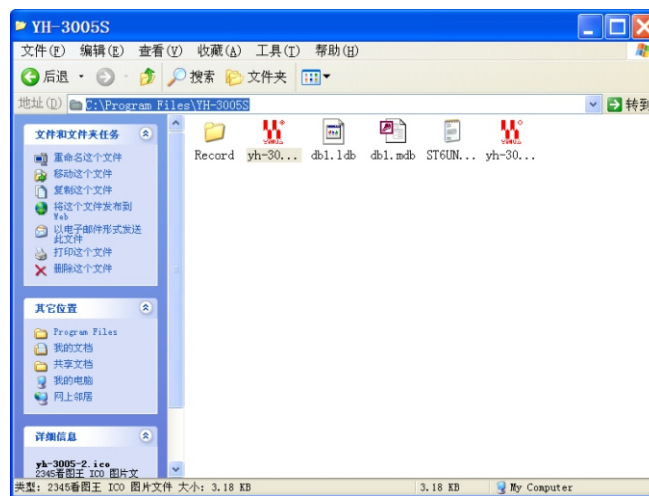

Figure 48
1. Find the install path of YH-3005S interface software. Nomally, "C:\Program Files\YH-3005S" (The path specified during installation), there are "db1.mdb" file, as figure 48, copy this file.